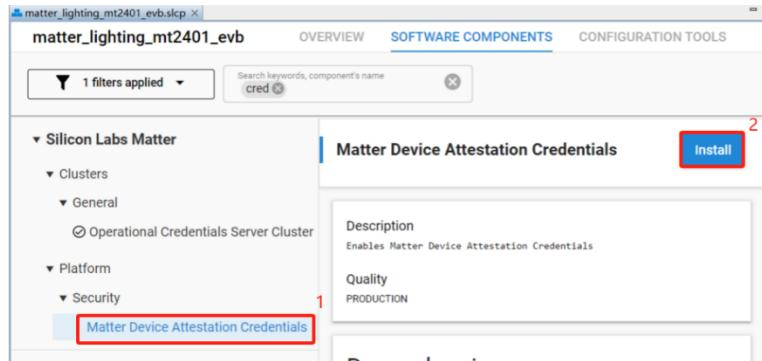

Figure 5.16
- 1) Install the "Silicon Labs Matter -> Platform -> Security -> Matter Device Attestation Credentials" component, as shown in figure 5.16